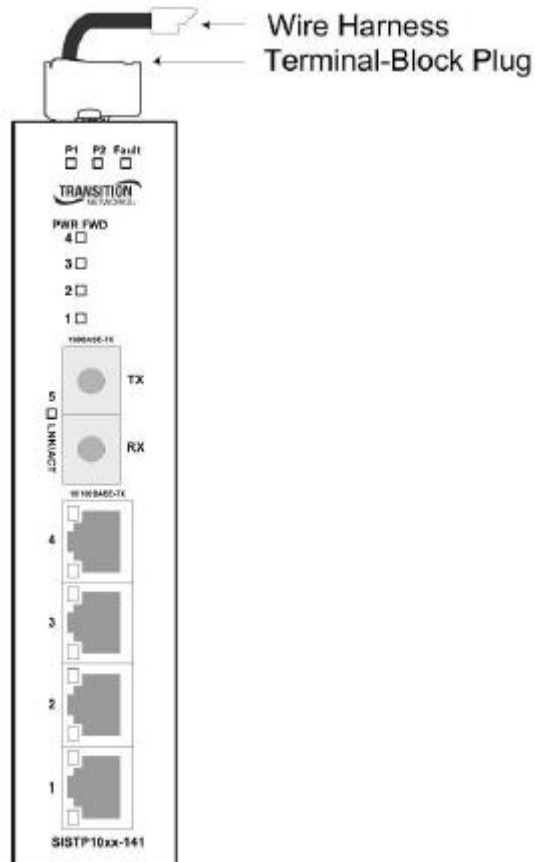

Figure 10: Wired Terminal Block Plug Inserted Into Industrial PoE Switch
6. Insert the terminal block plug into the Industrial PoE Switch's terminal block, as shown in Figure 10 below.